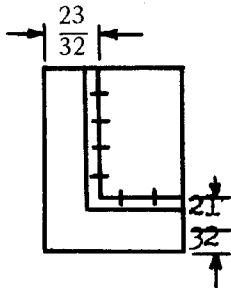

Fig. 4
5. Layout to remove excess metal Fig. 4. Set Calipers to $23/32"$ scribe line. Use Dividers and locate marks for $3/16"$ diameter holes. The marks will be $1/4"$ apart.